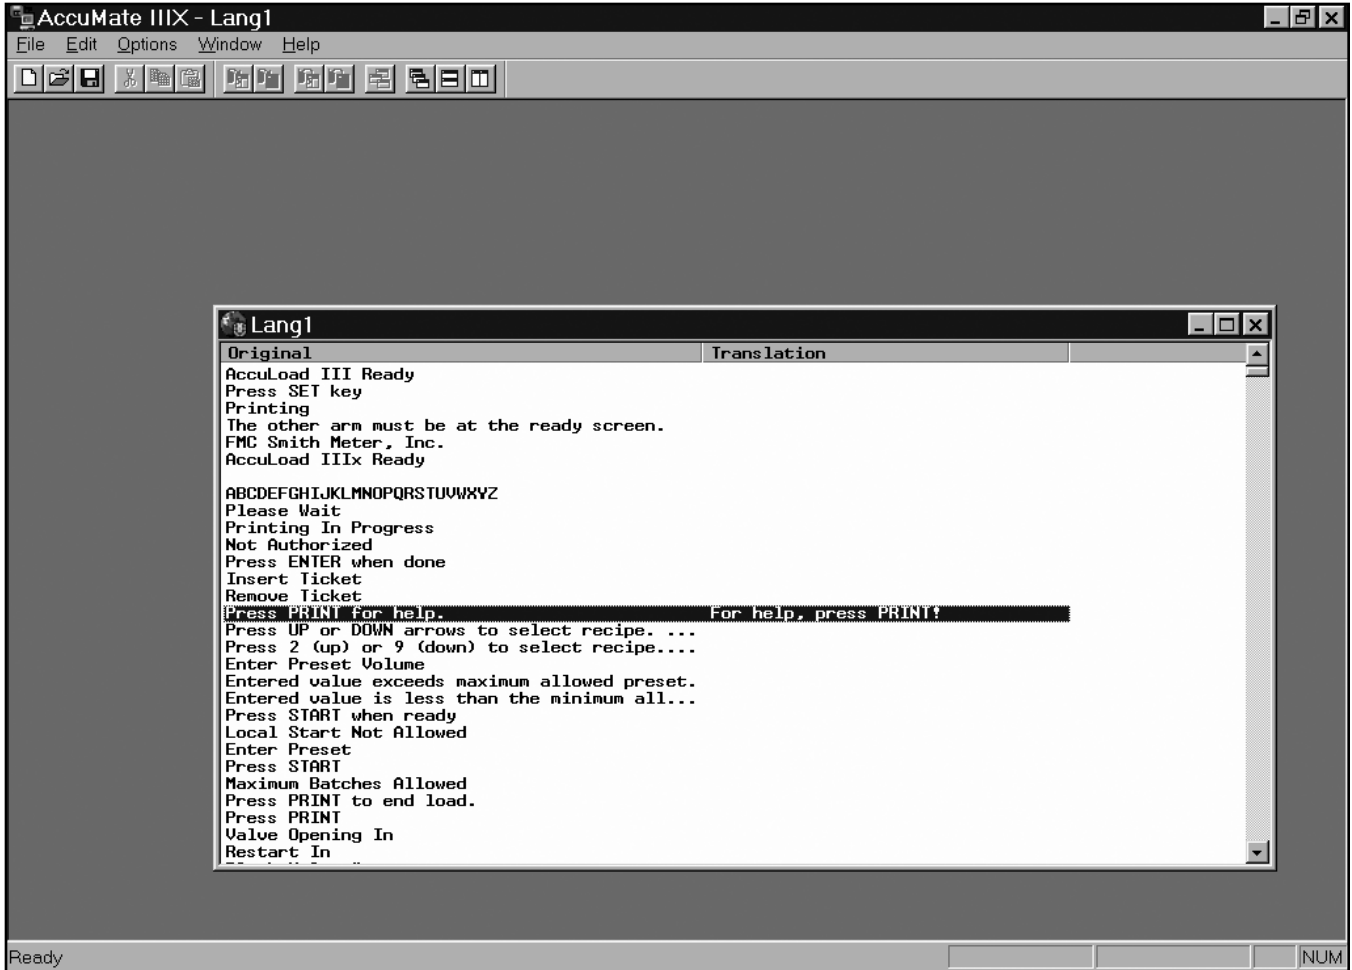

Figure 28
3. Click "OK" to exit and save changes, "Cancel" to abandon the change, or "Help" for more information about this function. Assuming that new text was entered, it will appear to the right of the Translation Editor screen, as shown in Figure 28. The new literal, once downloaded to the AccuLoad III, will appear in place of the original literal.